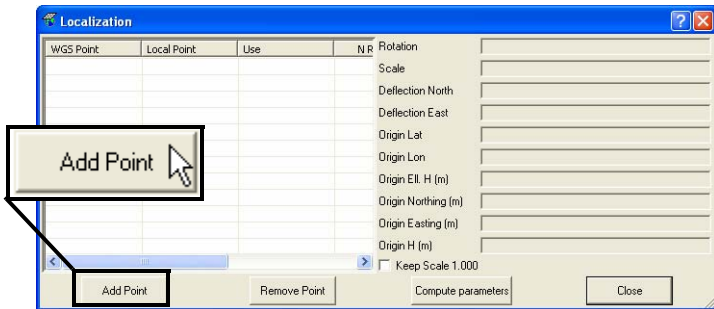

Figure 6-42. Add Point to Localize
3. To perform localization using these two sets of coordinates, click **Process ► Localization** or press **Shift+F8** to open the *Localization* dialog box. Click **Add Point** (Figure 6-42).